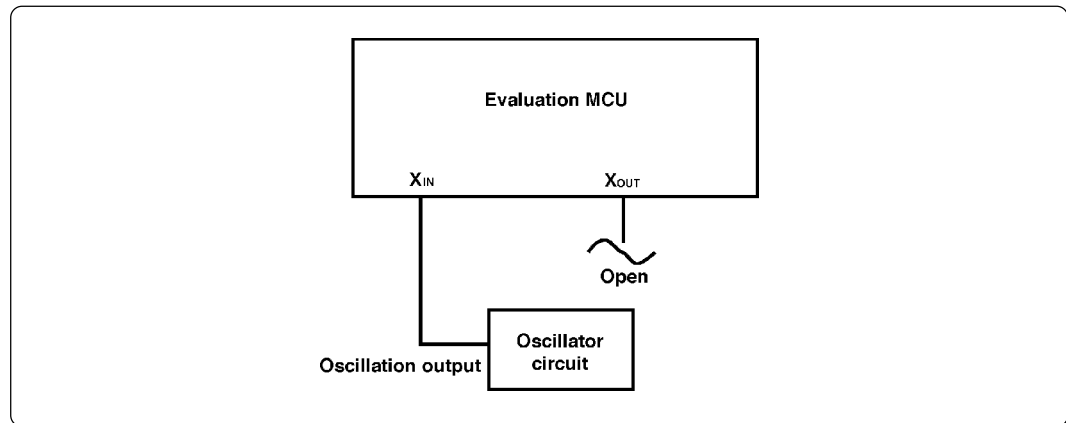

Figure 4.5 External oscillator circuit
(2) Using target system's oscillator
- a. To operate the emulator with an external clock, construct the oscillation circuit shown in Figure 4.5 in the target system and input the oscillation output at 40-60% duty (within the operating range of the emulator's MCU) into the Xin (Xcin) pin.